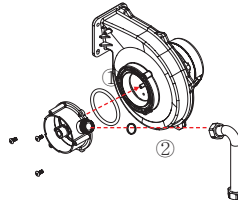

Figure 7
9. Replace the old 'MIXER ASSY' KIT' with new one for Propane (or Natural gas) use. The gas type is printed on the MIXER ASSY' KIT, refer to the table above. A new O-ring (①) and Packing (②) are supplied with the conversion kit. Make sure to replace each part. Use a hand screwdriver to tighten the MIXER ASSY' KIT and then use a crescent wrench to tighten the gas inlet pipe to the MIXER ASSY' KIT. See Figure 7.